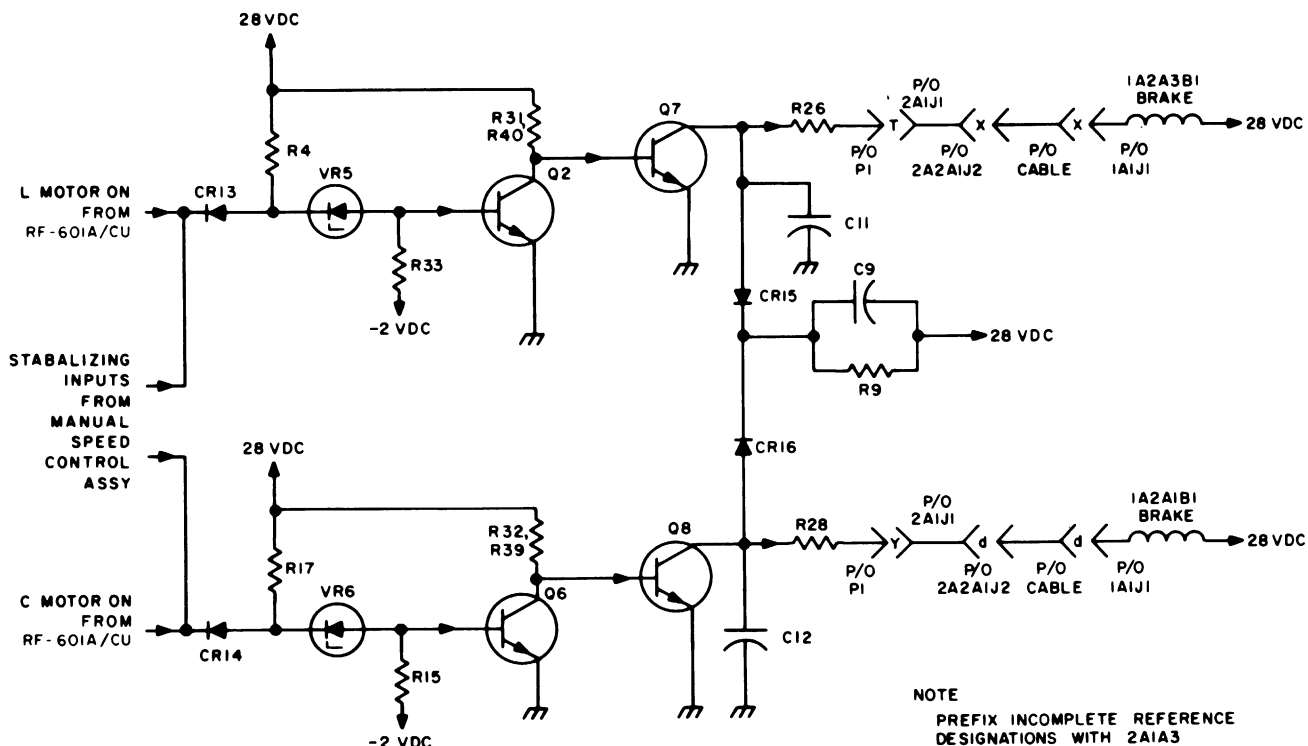

Figure 4.13. Brake Logic, Simplified Schematic Diagram
4.2.9.4 Brake Logic. The brake logic (figure 4.13) consists of two identical circuits; one for controlling the brake on servo motor 1A2A1B1, and one for controlling the brake on servo motor 1A2A3B1. In each case, the circuit consists of two inverters (Q2 and Q7) or (Q6 and Q8).